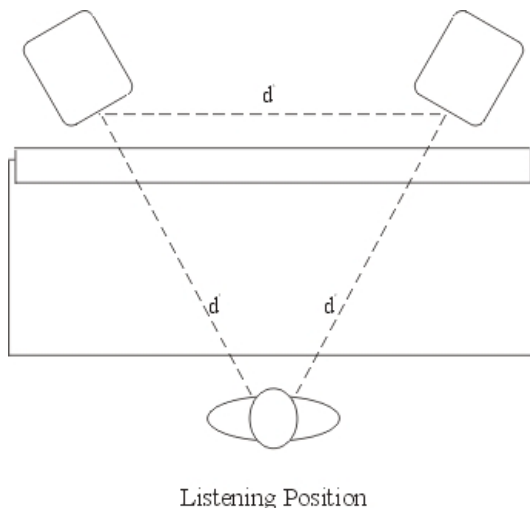

Figure 2
**Mid-Field Configuration** - This configuration is basically the same as the Close-Field set-up. (see *Figure 2*) It is normally used with larger monitors or when the monitors are too large or heavy for the meter bridge. This set-up has the potential for a larger sweet spot and better spatial imaging. Make sure that the height of the woofer is above height of the console.